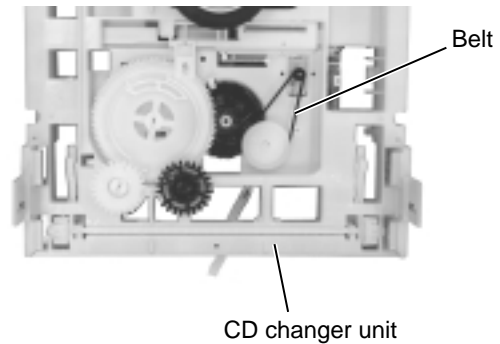

Fig.34
■ Removing the belt, the CD servo board & the switch board (See Fig.34 and 35)